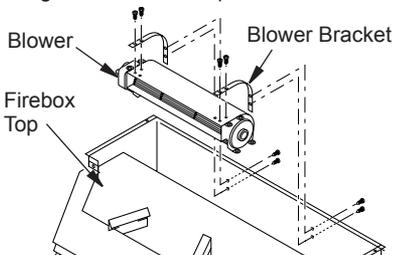

Figure 16 - Removing Blower Brackets from Stove and Attaching to Blower
6. Remove two blower mounting brackets from rear panel by removing two screws each (see Figure 16).
7. Attach 2 mounting brackets to blower housing using 4 screws provided in blower kit (2 for each bracket) (see Figure 16). Tighten screws securely. Place blower assembly temporarily on top of firebox.
12. Using the 4 screws previously removed, mount blower assembly to stove by reattaching blower brackets to rear panel (see Figure 16). Tighten screws securely.